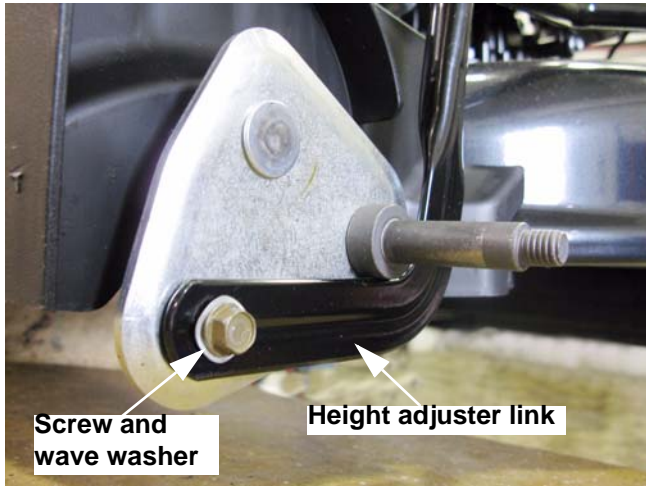

Figure 4.32
15. Reconnect the height adjuster link. Tighten the screw to a torque of 45-50 in-lbs. (4-5 Nm). See Figure 4.32.